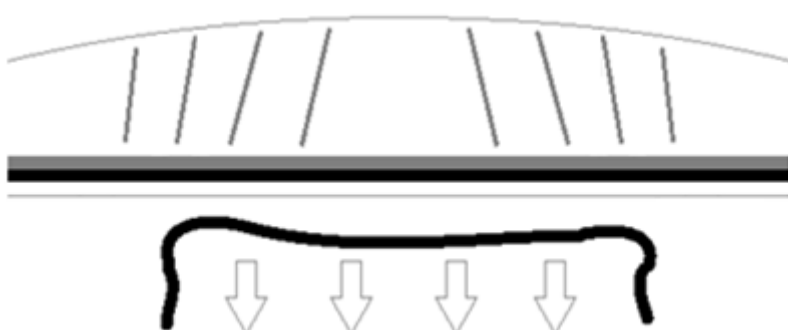

Fig109
- **STEP 1:** Cut a 19mm x 38mm batten to fit across the top of the door frame and end frame between the outer battens that form the rebate. Starting at one end of the polytunnel, trap the polythene with this batten pressed tight against the rebate batten. The polythene should be smoothed out 4 inches either side of the lintel centre and the batten nailed in place along this 8 inch length only (**Fig109**).